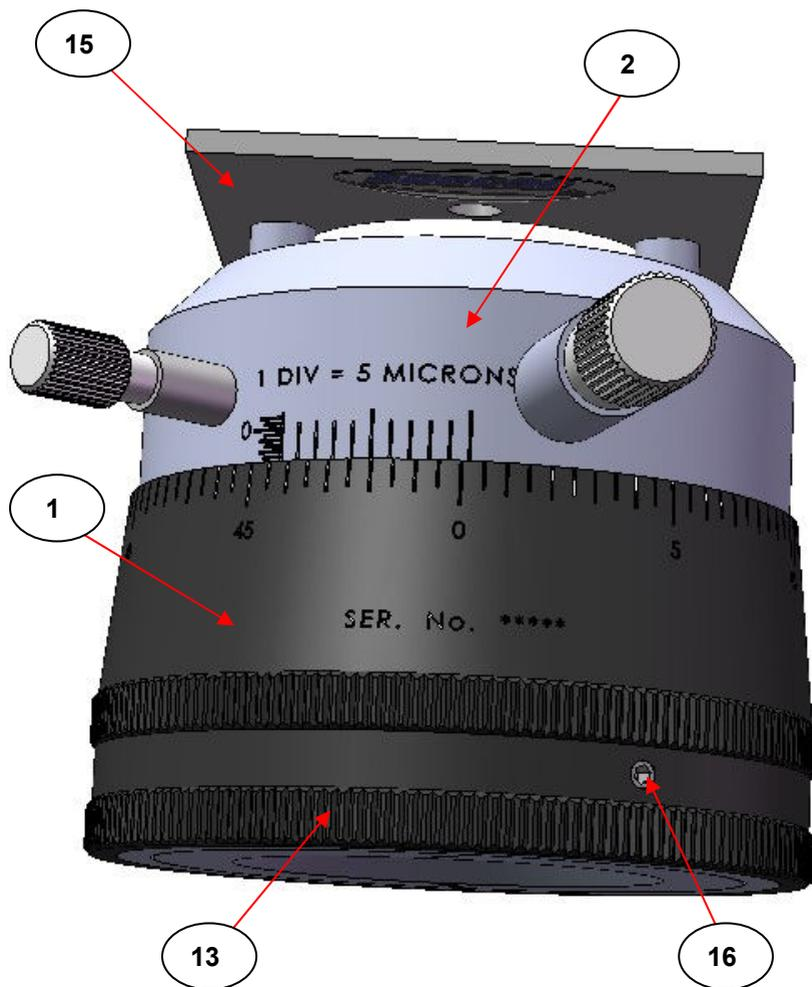

Fig 1. View of Vernier Scales for Pathlength Setting of the Variable Pathlength Liquid Cell GS07500 Series
- 1 Allen key 2.0mm short arm.
- 1 Allen key 1.5mm short arm.
- 1 Allen key 0.05 inches short arm.
After removing the Variable Pathlength Cell from its packaging, check that it is complete and that the black coloured outer body sleeve cap assembly (1) with silver coloured, graduated division markings in microns (0, 5, 10, etc), is free to rotate about the stainless steel body (2) with the black coloured Vernier graduations. (See Fig 1.)
The outer body sleeve cap assembly (1) has 100 graduated divisions (marked in silver). A rotational movement in either a clockwise (decrease pathlength) or anticlockwise (increase pathlength) direction equal to one of these divisions changes the pathlength by 0.005mm (5 microns). This scale is marked every 10 divisions i.e. every 0.05mm (50 microns). (See **Fig 1.** , page 6.)
The cell body (2) has a millimeter scale marked in black that runs parallel to the pathlength change axis of the Cell and is graduated in 0.5mm divisions from 0 to 6mm. Adjacent to this millimeter scale is a Vernier scale which permits the pathlength to be set within 0.005mm. (See **Fig 1.** , page 6.)
Loosen the three grub screws (**16**) (See **Fig 1.**, page 6), that secure the knurled edge outer cap (**13**) to the outer body sleeve assembly (**1**). Rotate and position the outer cap (**13**) **ONLY** (be very careful that the whole outer body sleeve cap assembly (**1**) does not rotate, otherwise the pathlength setting will be lost), until the correct pathlength reading (found from the fringing calculation) is indicated by the micrometer and Vernier scales. Carefully retighten the three grub screws (**16**) to secure the outer cap (**13**) into its new correct position in relation to the rest of the outer body sleeve cap assembly (**1**).